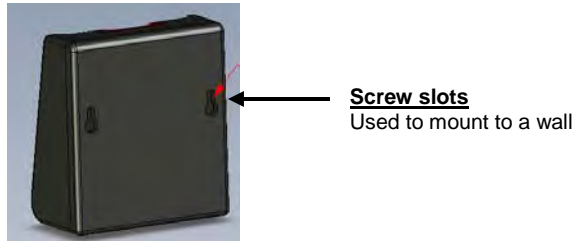

Figure 2-8: Backside of EdgeDock1
4. For first time use of a docking station, **Welcome to the found new hardware wizard** will appear (see Figure 2-8). Select **No** and press **Next** through the remaining wizard. At the end of the wizard, press **Finish**.